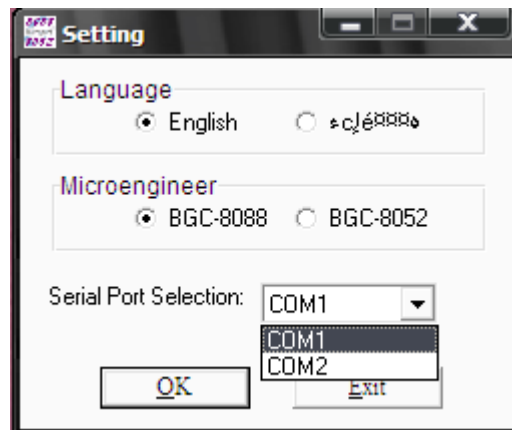

Figure 5: Settings
- e) Then the settings screen will appear, you have to choose the type of the kit and the COM port you are connected with. (See figure 5)